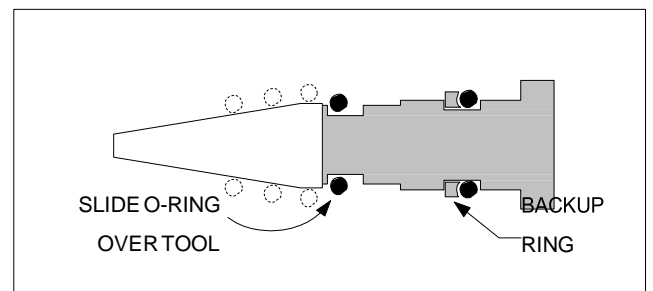

Figure 4 – Seat Holder O-Ring Installation
3. Lubricate seat holder seals with Parker Super Lube or equivalent. Slide seals onto seat holder using the O-ring Installation Kit (See Figure 4). Install backup ring on low pressure side of O-ring. Make sure the backup ring is lined up at the joint.